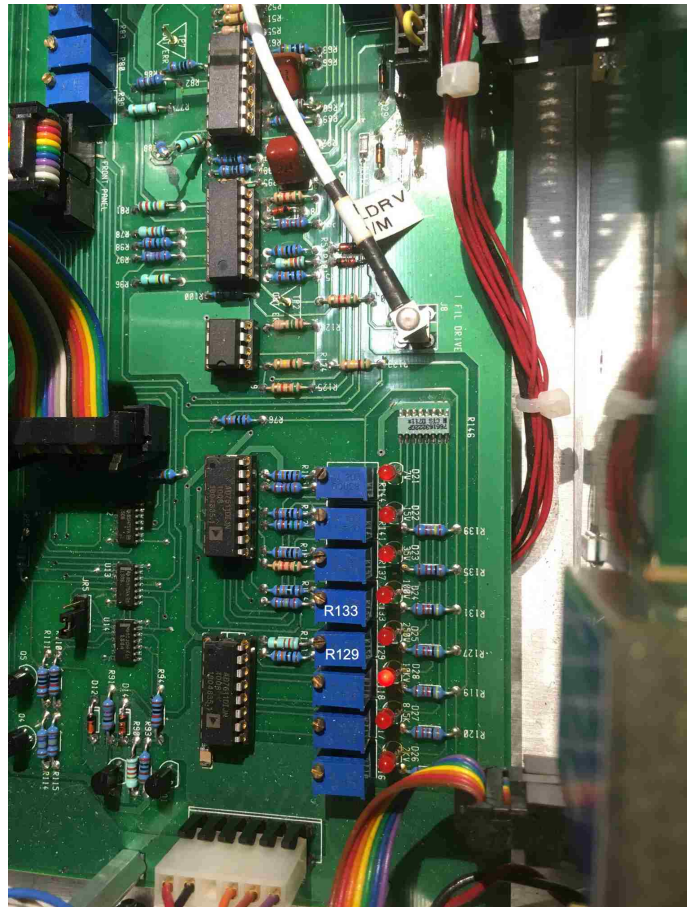

Figure 6  $I_{\text{out}}$  control pots on board inside of 9600 power supply
- e. The power of each spot,  $P(W) = 10000 (V) \times I_{out}(A)$ , is adjusted by the pots shown in Fig 6 below. When a spot size is selected an LED lights beside the pot to indicate which one to adjust to change  $I_{out}$ .
- d. Use the non-Bragg angle adjustment knob on the crystal gimbal (Fig 6) to make the spot as small as possible. (This is to get the spot in focus.)
3. If the vacuum is  $< 5 \times 10^{-9}$  select the 250 (300) Micron spot. Immediately check the spot size on the phosphor target. Adjust the spot to ensure that it is no smaller than  $300 \times 520$  Microns. Check the gun parameters against the final test values shipped with the gun or Table 1 if document not available.